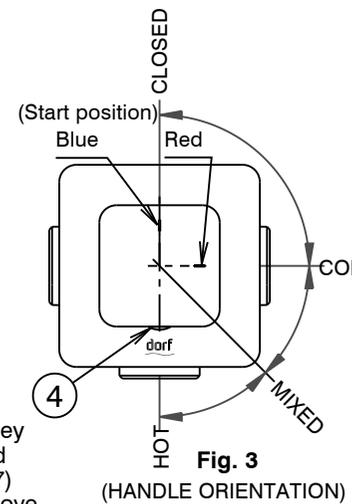

Fig. 3
- 4) Rotate the plastic insert (7) anticlockwise to the stop position. Fit handle (1) onto insert (7), with the red/blue markings as shown (Fig.3), then tighten grub screw (2). Fit plug (4) taking care not to damage the decorative finish.
- \* **This mixer is fitted with a 'Progressive' cartridge. To operate the cartridge, the handle is rotated clockwise (Fig.3). The first 90° of handle rotation will only select cold water. Further rotation of the handle will deliver a mixture of hot and cold. When the handle is rotated fully clockwise, only hot water will flow.**
- 2) Carefully remove plug (4) before using a 2.5mm allen key (3) to loosen grub screw (2) and remove handle (1) and handle spacer (5). Undo screw (6) and remove insert (7) from old cartridge spindle. Unscrew sleeve (8) and remove cover plate (9), taking care not to damage the decorative finish. Unscrew retaining nut (10) (32mm A/F) then lift out old cartridge (11).
- 3) Ensure inside face of mixer body (12) is clean. Check that seals are in position in base of new cartridge (11). Fit new cartridge (11) into mixer body (12), taking care the lug on base of cartridge (11) fits into mating hole in mixer body (12). Screw on nut (10). **Important:** Nut (10) should be tightened until solid. Rotate the cartridge (11) spindle anti-clockwise to the stop position then fit insert (7) ensuring the flat sides of the insert are in horizontal/vertical alignment. Small adjustments can be made to the alignment by loosening nut (10) and rotating the cartridge slightly before re tightening the nut. Retain the insert (7) to the spindle using screw (6). Replace the cover plate (9) (see installation step 2).
- 4) Slide the handle spacer (5) onto the plastic insert (7) until the spacer rests against the sleeve (8). Fit handle (1) with the red/blue markings as shown (Fig.3), taking care that it is pushed fully onto insert (7), then tighten grub screw (2). Replace plug (4) taking care not to damage the decorative finish.